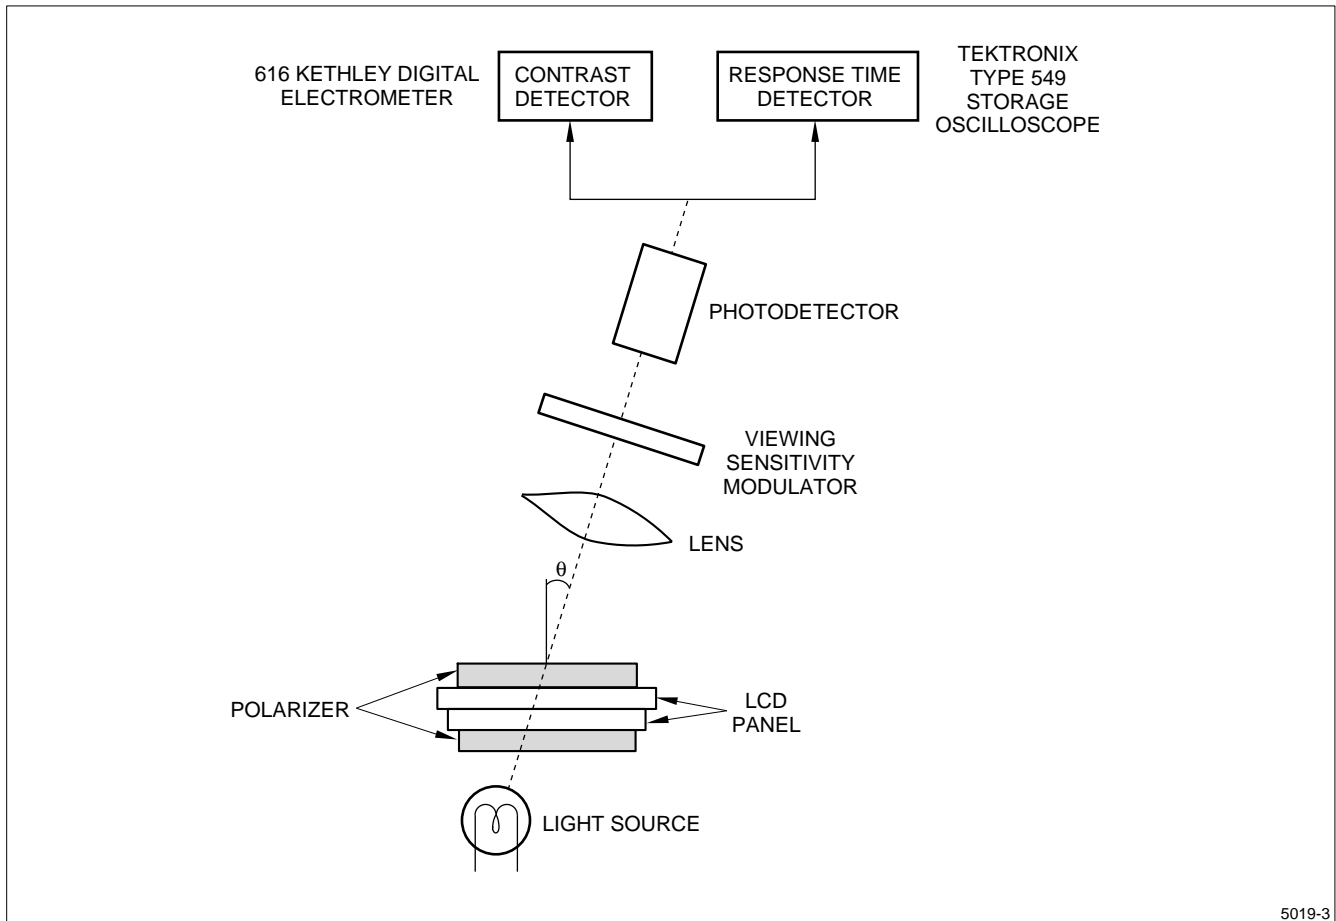
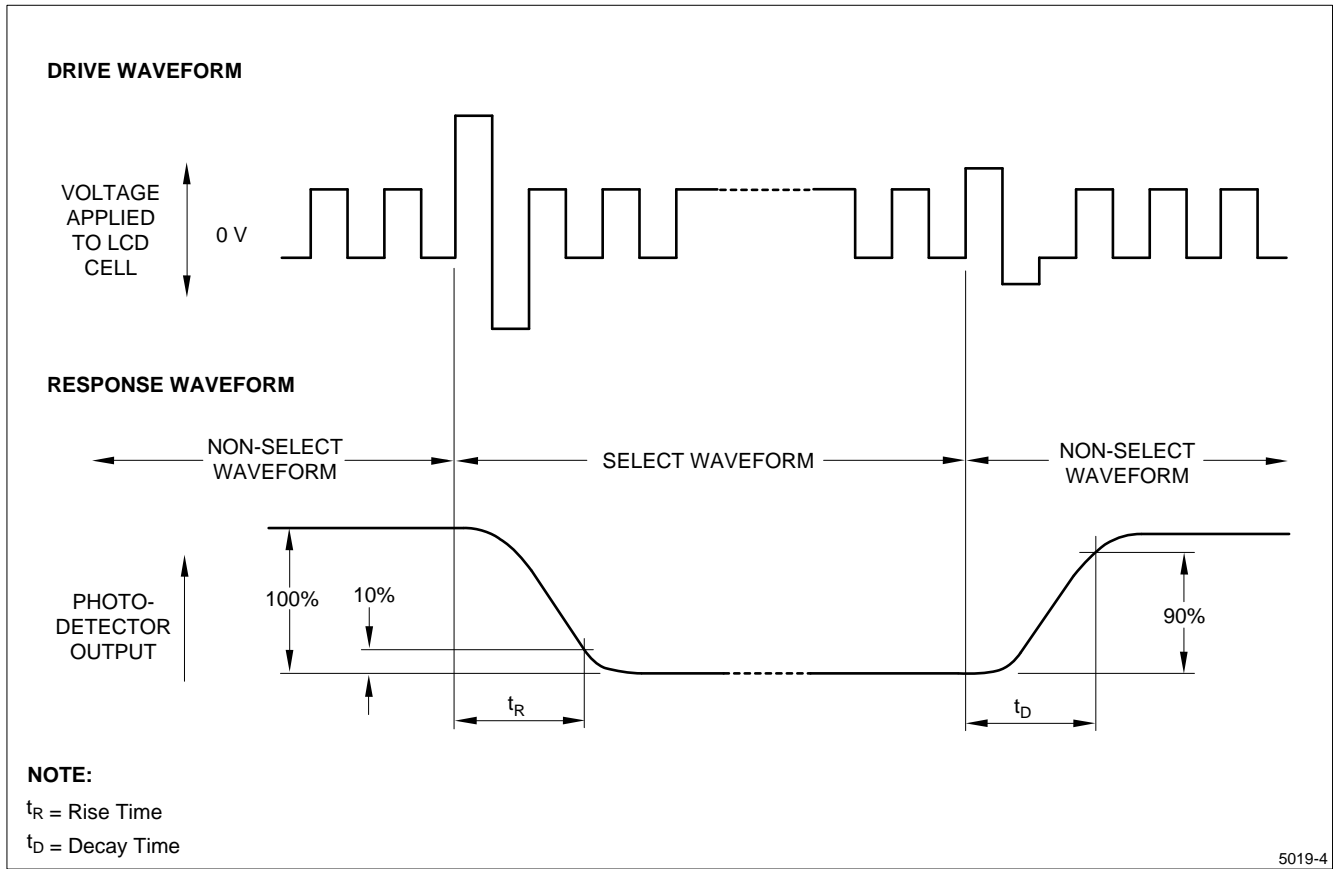

Figure 4. Optical Characteristics Test Method
Figure 5. Definition of Response Time
When input signal is applied to the unit to select (turn on) the LCD dots (pixels) to be measured in the optical characteristics test method as defined in Figure 4.
- When input signal for selecting or non-selecting the dots to be measured are applied using the optical characteristics test method shown in Figure 4. The response characteristics of the photodetector output are measured as shown in Figure 5.